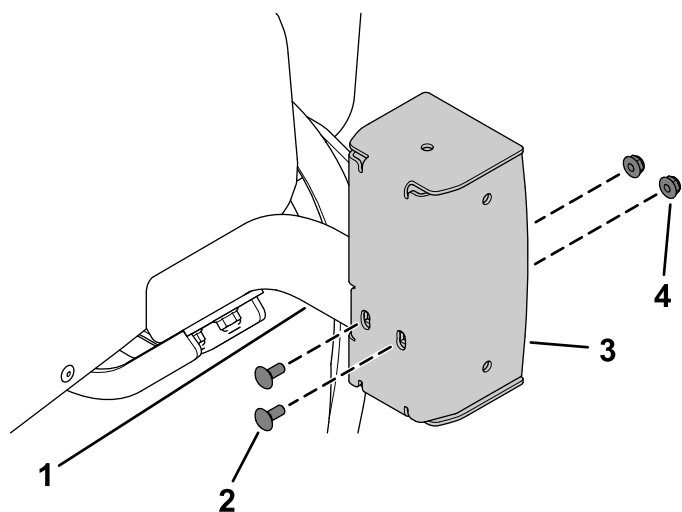

**Figure 19**
- **Model 31980 equipped:** Secure the right long mount (Figure 19) to the right mount using 2 carriage bolts (5/16 x 3/4 inch) and 2 flange nuts (5/16 inch).
- **Model 31981 equipped:** Secure the right short mount (Figure 19) to the right mount using 2 carriage bolts (5/16 x 3/4 inch) and 2 flange nuts (5/16 inch).